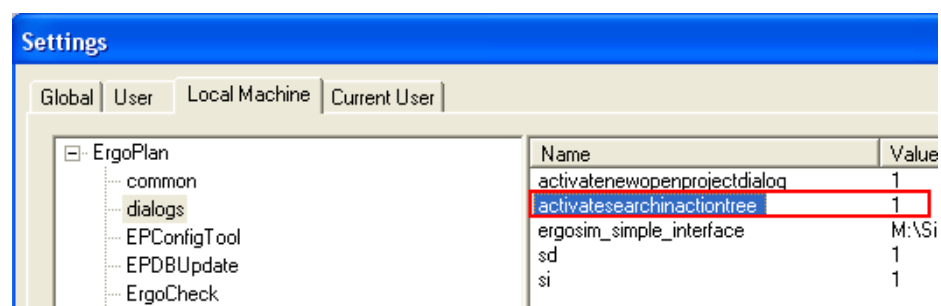

Figure 14: Local Machine - Dialogs
- 4) Click **Tools < Settings < Local Machine < ErgoPlan < dialogs** and set the **activatesearchinactiontree** to value 1. Please refer to the Figure 14.